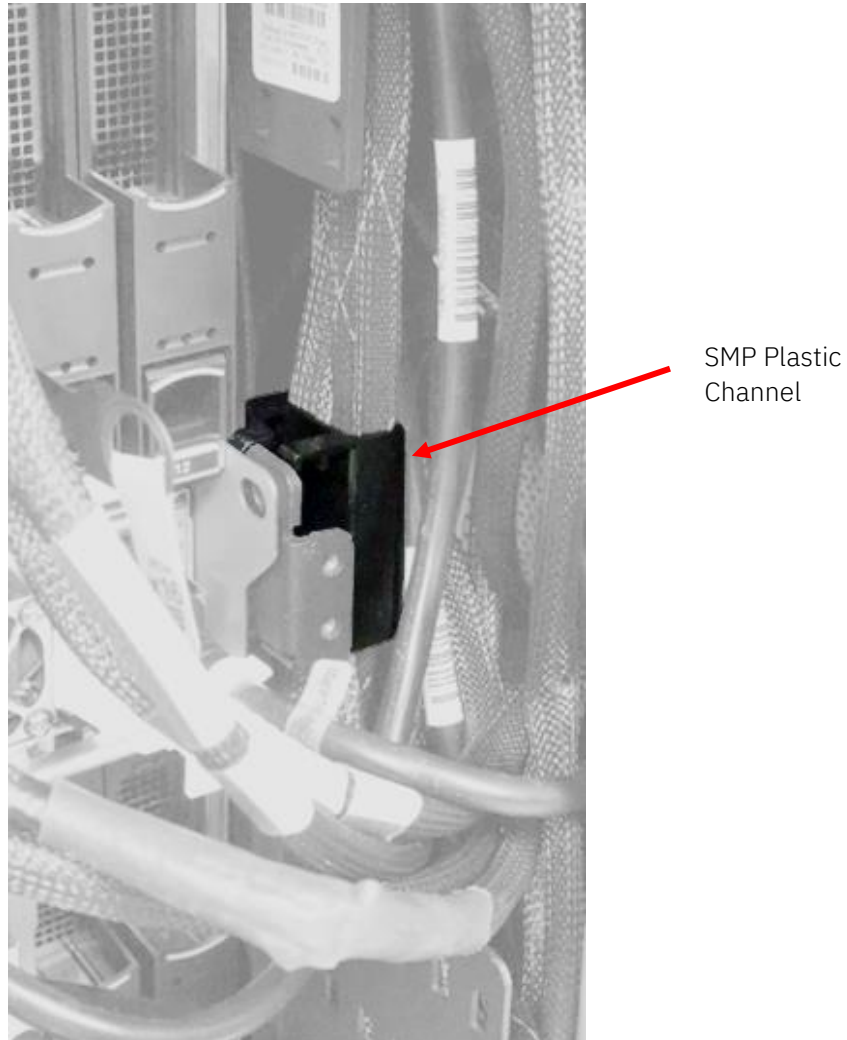
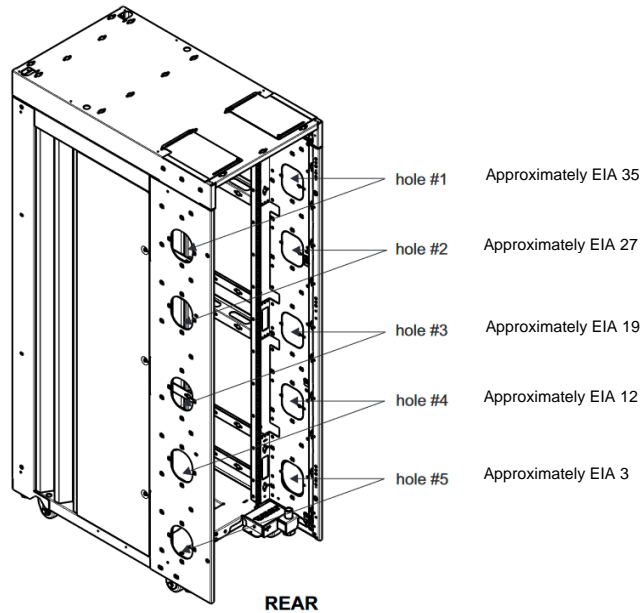
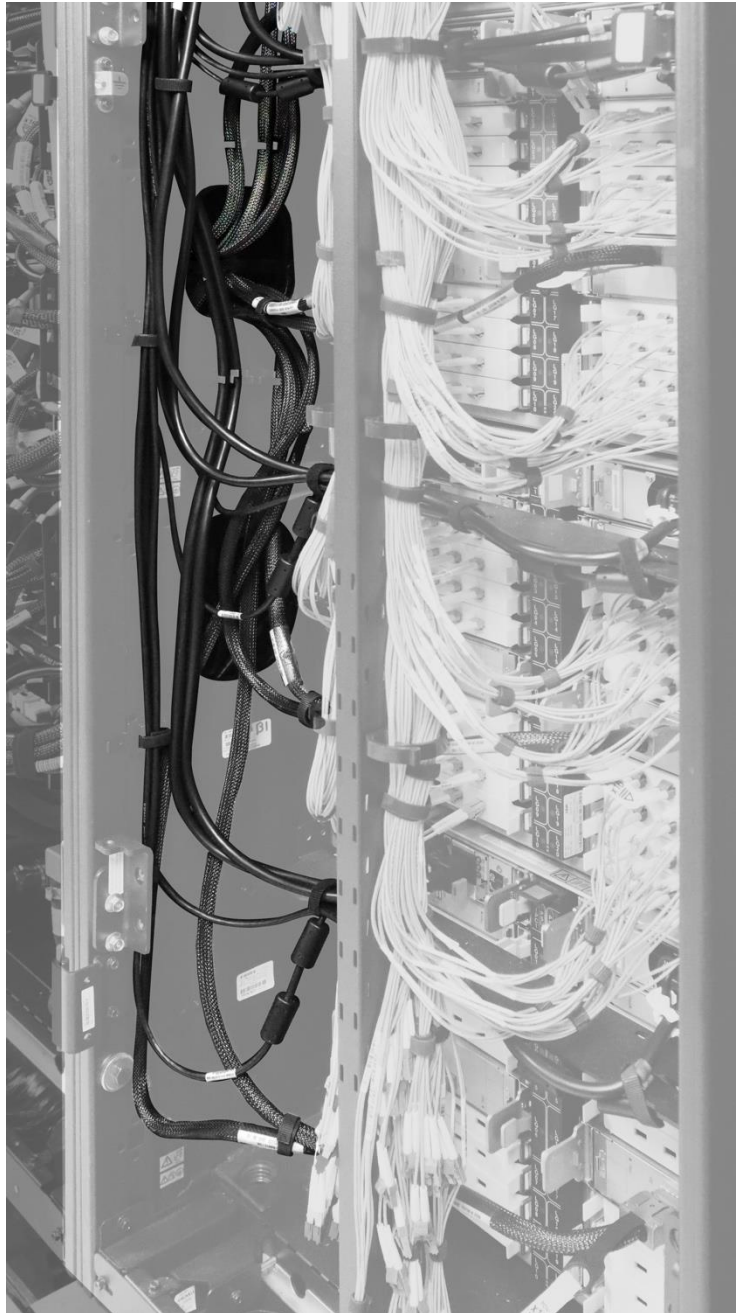

Figure 10: SMP10 Plastic Channel (CPC bracket not shown for clarity)
Figure 25: Rear View of Frame with Hole Numbers and Locations
Figure 36: PCIe+ I/O cables Routed Through Hole #3
The intention of this plastic channel is to retain the Symmetric Multi-Processing (SMP) cables and protect them as the machine is being serviced. When the SMP cables are being routed between frames A and B, they are to go through hole #3 (see Figure 25 for hole number designations). Figure 10 depicts the SMP plastic channel. It allows the cables to be neatly routed behind the CPC drawer bracket.
To ensure compliance with safety and other regulatory requirements, multi-frame systems must always be bolted together with rack-to-rack connection hardware. For multi-frame system configurations, signal and power cables are routed within and between frames. The interframe cables are coiled and bagged to one (1) side of the frame for shipping. After the frames are bolted together during installation, these cables will need to be routed through designated frame holes (see Figure 25). These frame hole callouts are also referenced in the Installation Manual.
PCIe+ I/O cables connect the System's CPC drawers to the PCIe+ I/O drawers. The recommended routing of these cables within a frame or to an adjacent frame(s) is provided in Figure 36. For frame-to-frame routing, these cables must pass through hole number 3 (ref. Figures 25 and 36).